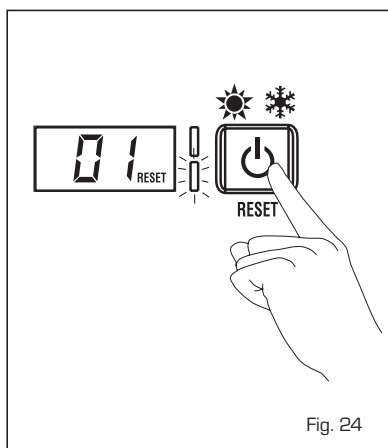

Fig. 24
- LOW WATER PRESSURE ANOMALY ALARM 02 (fig. 24/a)